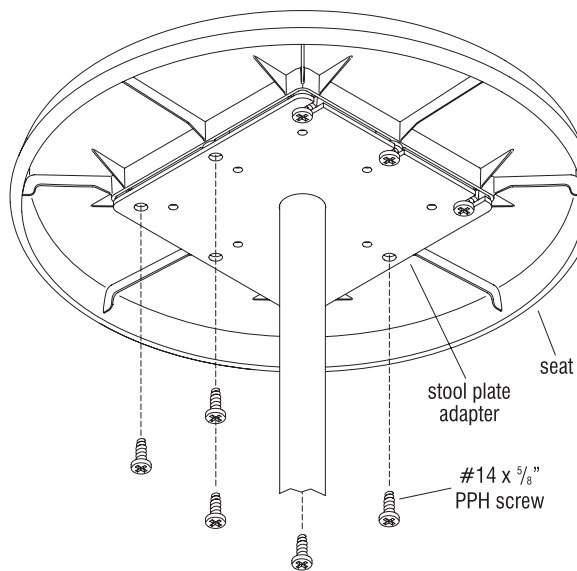

Figure 4
5. Slide plate adapter into place and align vacant seat mounting holes with stool plate holes (Figure 4).
6. Install five #14 x $\frac{5}{8}$ " screws into the vacant attachment holes and torque to 15-20 in/lbs. Next, twist down the three screws on the slotted hole side and torque them to 15-20 in/lbs (Figure 4).